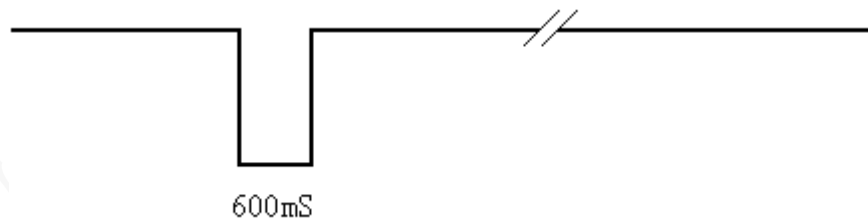

Figure 15 RING Indicator for SMS
- 2) Upon receipt of SMS, the module outputs one 600mS low pulse. See Figure 15.